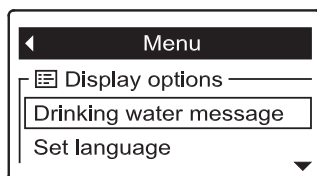

FIG. 57
2. Press the remote's SELECT (○) button to display the drinking water status menu (See Figure 57).
3. If necessary, press the DOWN (▼) button to scroll through the menu options until **Drinking water message** is highlighted in a box (See Figure 57).
6. Press the SELECT (○) button. The display will go back to the menu shown in Figure 57.